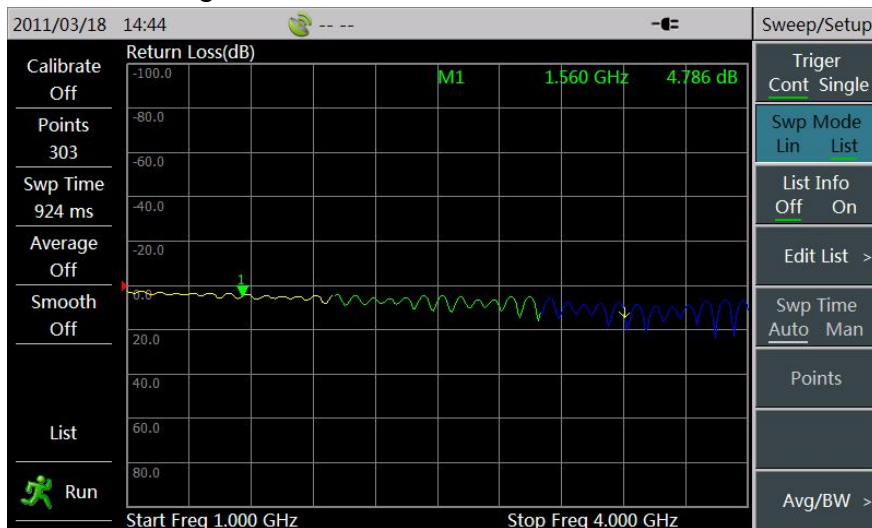

Figure 3-21 Sweep List
- After completing editing, click [Back] menu to return to the Sweep menu bar; in this case, it can use [Sweep Mode Lin List] menu to switch to the list sweep mode, as shown in Figure 3-21: